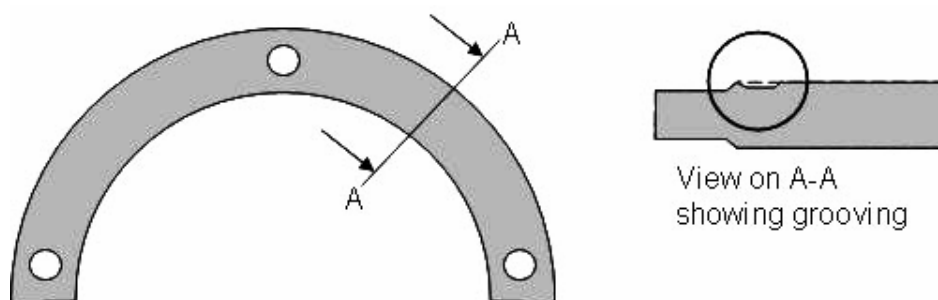

Figure 1: Grooving Damage to Rear Cover Plates
- 5.1 Wear or grooving on the bearing abutment face above 0.2mm, see Figure 1. It is permissible to reverse the cover plate and use the opposite side if this is not worn or damaged.